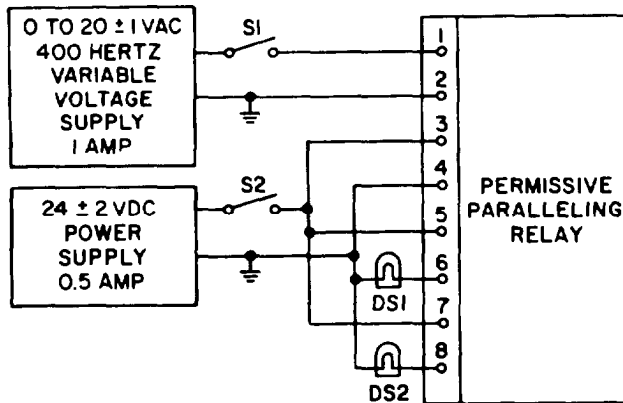

Figure 6-30. Permissive Paralleling relay (K16) test set up
a. Connect the permissive paralleling relay to the test equipment as illustrated in figure 6-30.